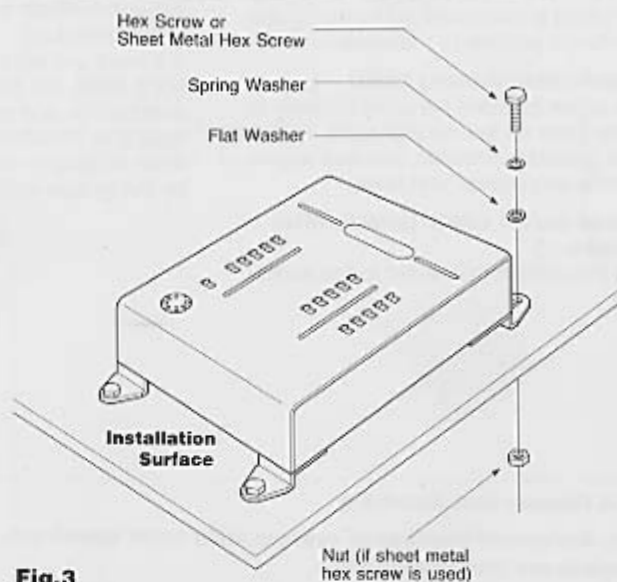

Fig. 3
- ③ Fasten the corner angles to the installation surface (see Fig. 3). The required hole diameter is 5 mm when using the hex screws and 3.4 mm when using the sheet metal hex screws.
By using the range switches on the EC-302, the setting range and frequency steps can be altered, allowing even greater flexibility (see Fig. 3).